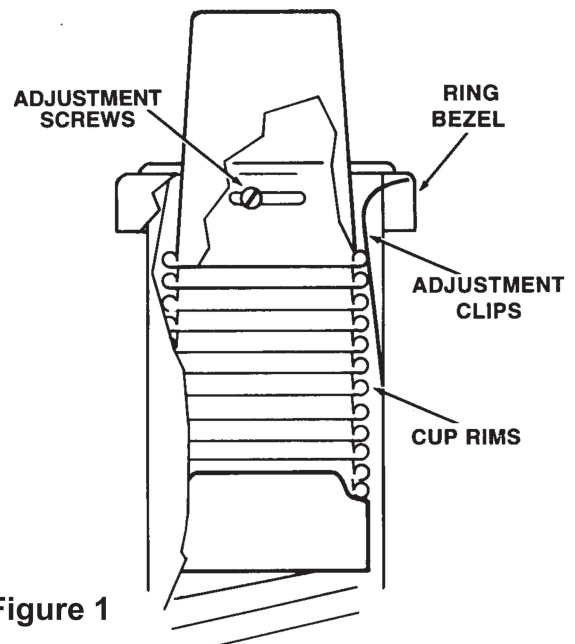

Figure 1
- Loosen adjustment screw(s). Turn ring bezel counterclockwise to open the cup dispenser to its widest adjustment position. (See Figures 1 & 2)
- Insert a stack of approximately 12 cups, rim first, so that the rim of the top cup is located slightly below the top portion of the adjustment clips. (See Figure 1)